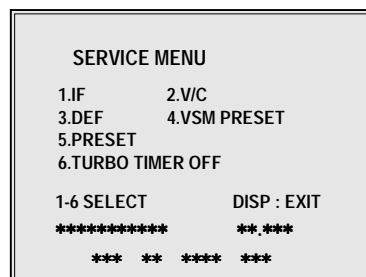

Fig.1
- 2) The SERVICE MENU screen of Fig. 1 will be displayed.